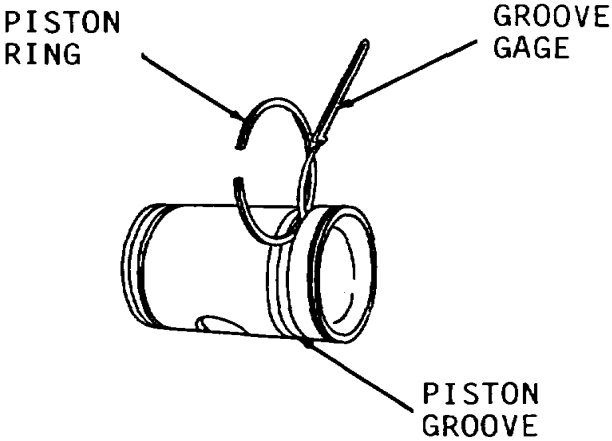

Figure 13-45.
- 5. Using feeler gage, measure clearance between pin (7) and bearing (9). Clearance between new parts should be .0003 to .0013 inch. Maximum clearance permissible for worn parts should not exceed .002 inch.
- 7. Using piston ring groove gage (Figure 13-45), measure side clearances. Put pin end of number 2 gage in ring groove at four places around the piston. Check both grooves. Piston is reusable if there is clearance between flat edge of gage and piston. Both grooves must be good to reuse piston. Replace piston if flat edge of groove gage is in contact with piston at any test point.